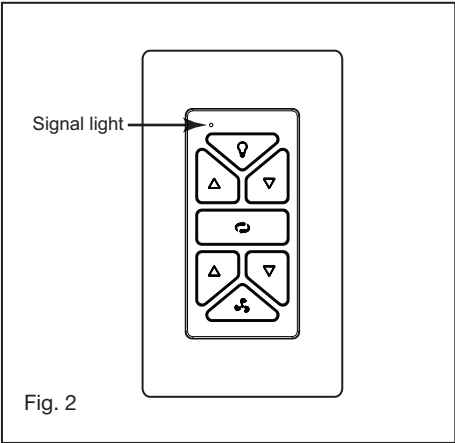

Fig. 2
2. Make wire connections from the fan to the receiver unit. For this step use the bundle of 5 wires on the receiver. (Fig. 2)
- 4 Remove one of the three screws on the adapter plate located on the fan motor. Loosen the other 2 screws. (Do not remove) (Fig. 2)
- 5 While holding the LED Assembly under your fan, make the polarized plug connections: (Fig. 2)
- 2 Seat the cradle A into the wall plate. (Fig. 2)
- 6 Signal light (Fig. 2)